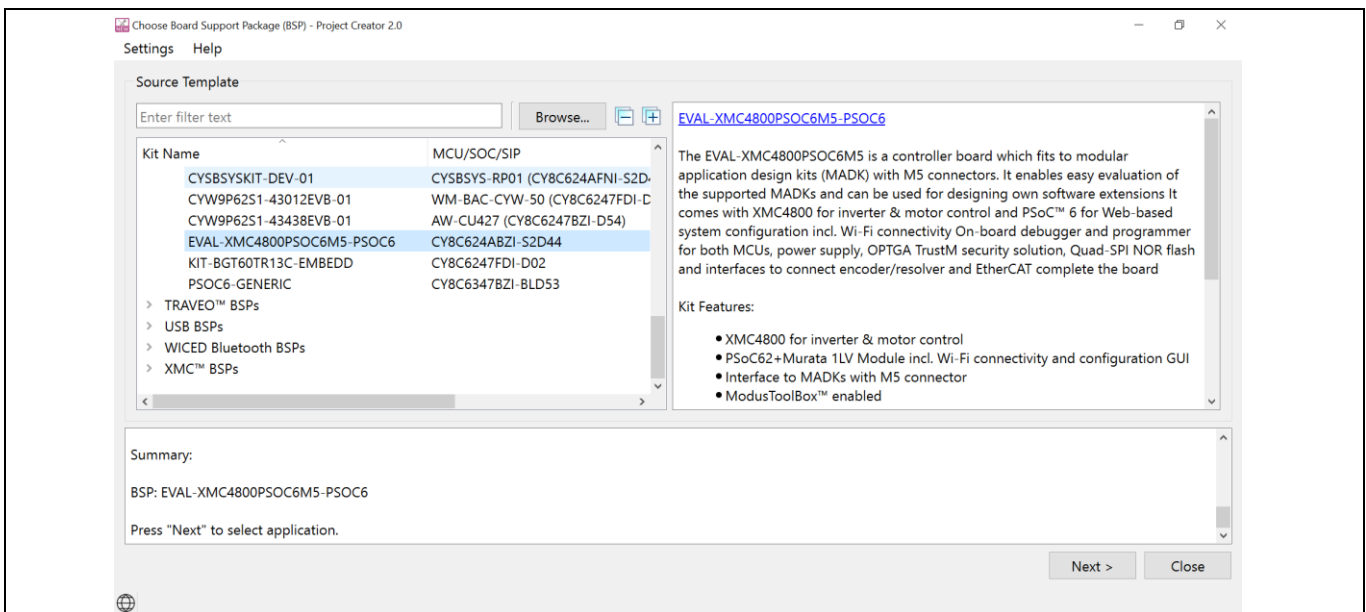

Figure 6 Select the BSP
Note: The process to integrate into ModusToolBox™ may be delayed, if you do not find the board listed in the board support package (BSP) as shown in Figure 6, please wait for a few days.
- Select the kit name EVAL-XMC4800PSOC6M5-PSOC6 in the category, PSoC™ 62 BSPs, and click **Next** (see Figure 6).